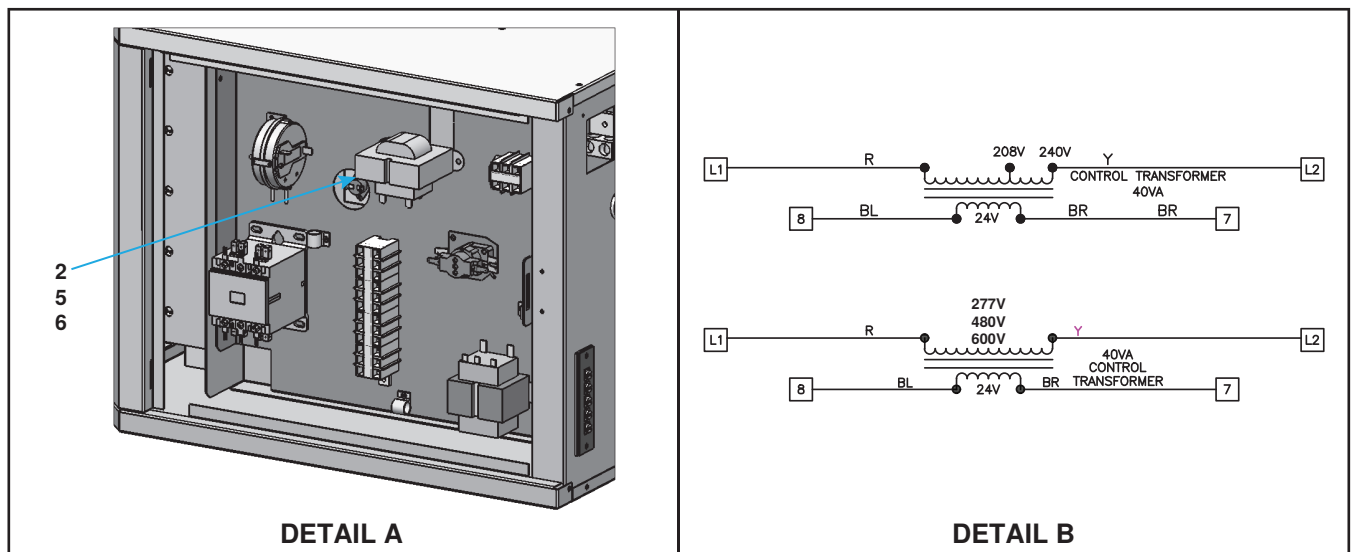

Figure 1. Transformer Location (Typical) and Wiring—Model EUH (Refer to Table 1)
- (1) Remove control compartment access panel.
- (2) Position transformer (5) as shown in **Figure 1**, DETAIL A and secure transformer using self-tapping screws (2).
- (3) Connect wires for transformer (5) in accordance with **Figure 1**, DETAIL B.
- (4) Install control compartment access panel.